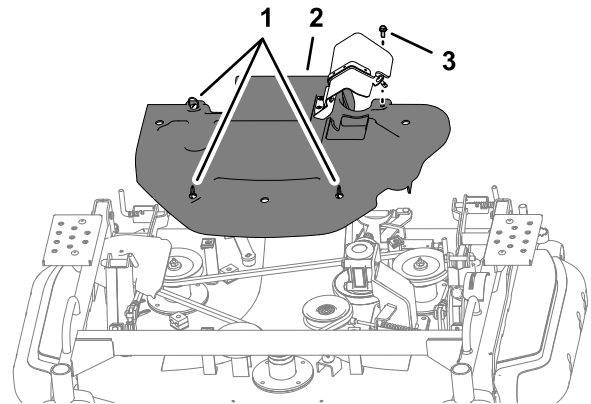

Figure 116
1. Rotate the 3 quarter-turn fasteners counterclockwise (Figure 116).
2. Loosen the bolt (Figure 116).
1. Align the quarter-turn fasteners of the belt cover with the clip nuts of the mower deck; refer to Figure 116 in Removing the Belt Cover (page 78).
3. Install the bolt in the belt cover to the nut clip of the mower deck; refer to Figure 116 in Removing the Belt Cover (page 78).